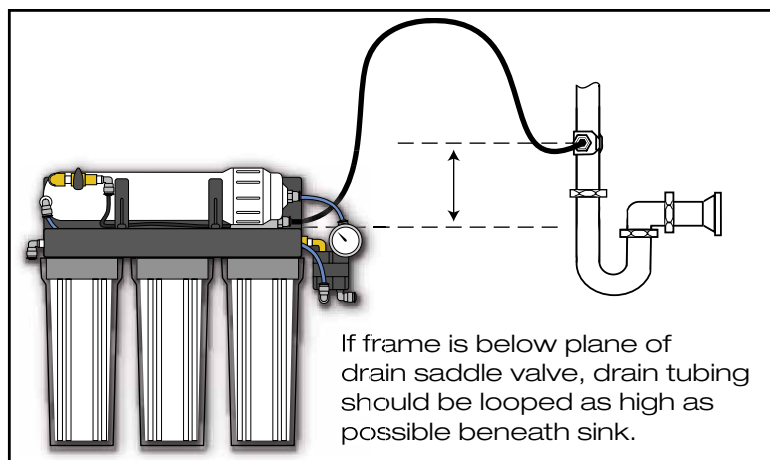

Figure 8, Drain Tubing Connection
NOTE: When installing the Main Assembly, mount the frame above the position of the drain saddle whenever possible. (See Figure 8 the next page.)
It is best to have the anodized aluminum frame placed above the plane of the drain saddle valve whenever possible. When this is not possible, extra care must be taken when routing tubing from the assembly to the drain saddle valve. (See Figure 8, right.)
**IMPORTANT:** If the frame of the main assembly is not above the drain saddle valve, you will need to loop the tubing as high as possible beneath the sink. Be sure to allow for this loop when you measure. (See Figure 8 on page 7.) A self-adhesive tubing clip has been provided to secure the drain loop.